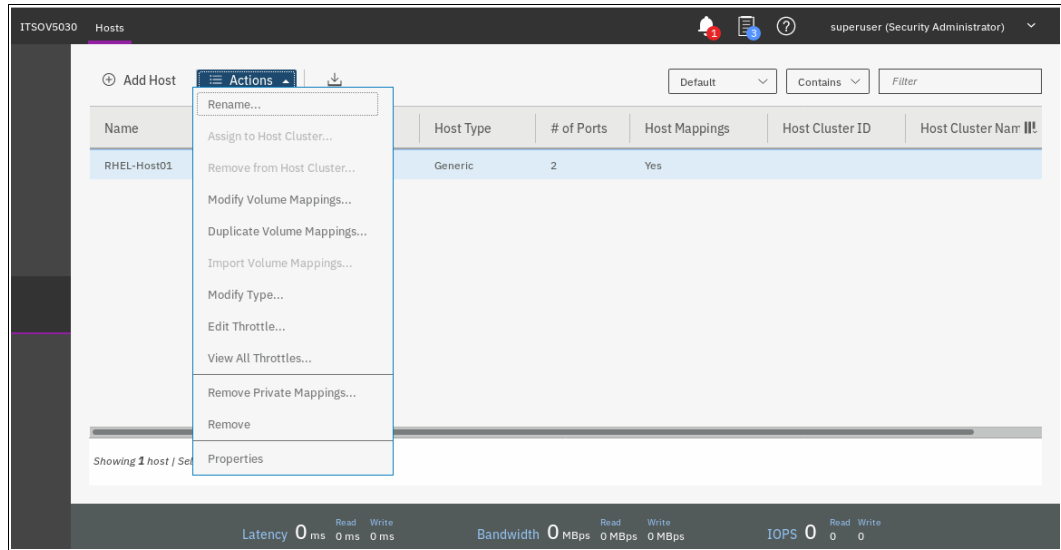

Figure 6-41 Modify host mappings
- Right-click the host to which the volume was mapped and select **Modify Volume Mappings**, as shown in Figure 6-41.